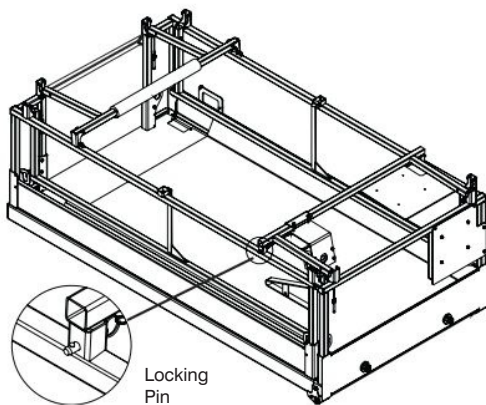

Figure 3-11c. All Guardrails Folded Down
Lock extension guardrail into place on the mounting post. Ensure that the detent ball of the pin is all the way through. (Refer to Figure 3-11c)
6. Remove locking pin from mounting post and carefully raise extension guardrail up and lock into place with locking pins ensuring that the detent ball of each pin is all the way through (Refer to Figure 3-11c).